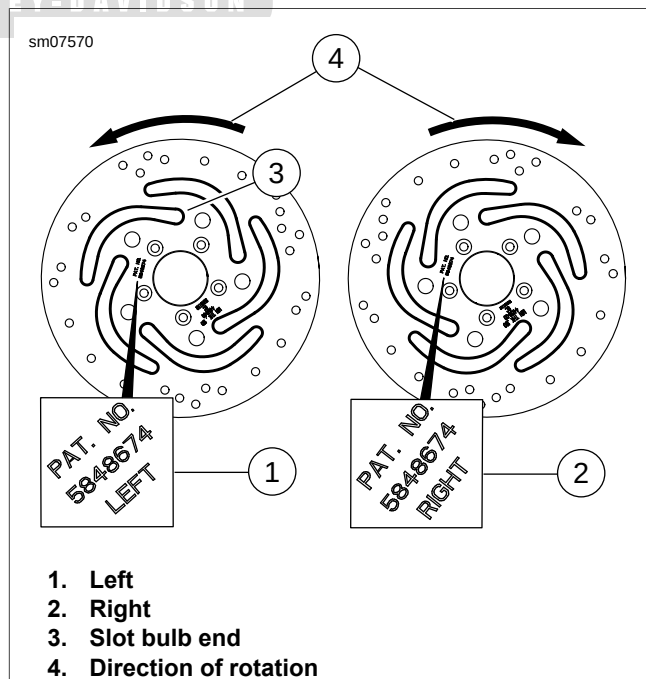

Figure 2-15. Dual Disc Orientation: XL 883R
See Figure 2-15. The words **LEFT** (1) and **RIGHT** (2) on the discs will be located on the left and right sides.
- Hold brake discs together with inboard sides facing each other (minimum thickness and part number stampings are on outboard side of brake disc). The bulb shaped end (3) of each slot is on the trailing edge of the slot in the direction of rotation (4).